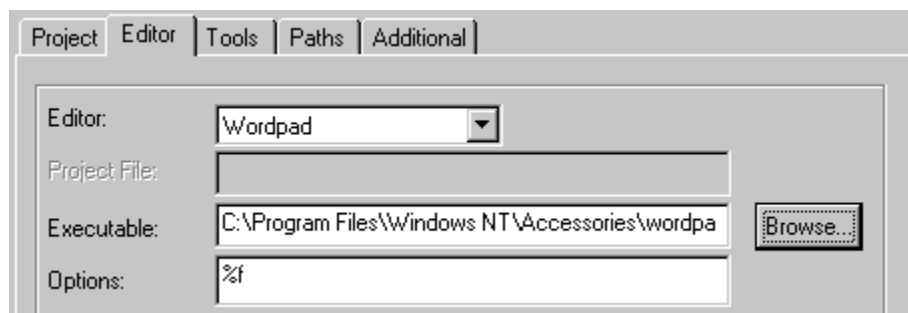

Figure 4-7. Editor Configuration for Wordpad
6. The **Options** edit box contains options used for error feedback in the MCUez assembler and linker. After selecting Wordpad, the shell automatically enters the appropriate options. **Figure 4-7** shows a typical Wordpad configuration.